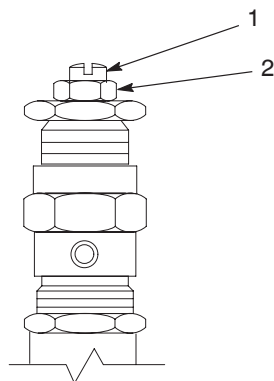

Figure 9-23 Location of loading screw and locking nut on a module
2. See Figure 9-23. To set the loading screw to the factory setting, loosen the locking nut (2), turn the loading screw (1) clockwise until it bottoms out, back the loading screw out three full turns (counterclockwise), and tighten the locking nut. To use the loading screw to adjust adhesive output, refer to *Synchronizing Multi-Module Applicator Adhesive Output* earlier in this section.